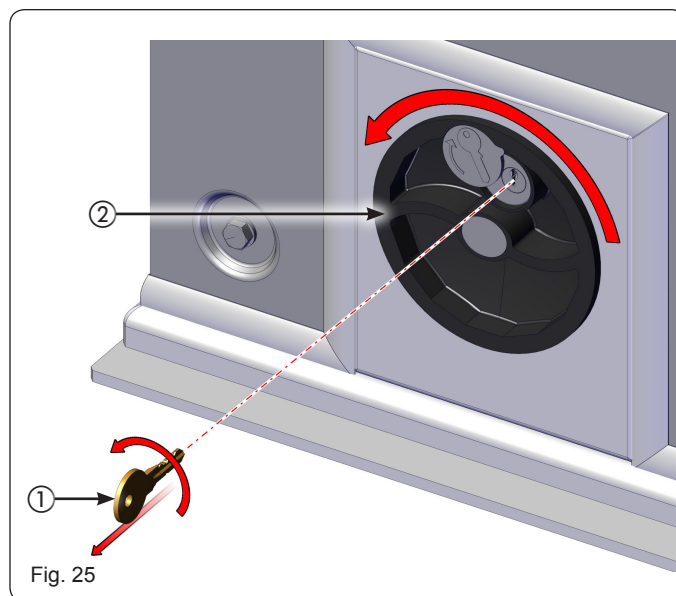

Fig. 25
1. Turn the release system anti-clockwise until it stops (Fig. 25 ref. ②).
2. Turn the key anti-clockwise and then remove it from the lock (Fig. 25 ref. ①).